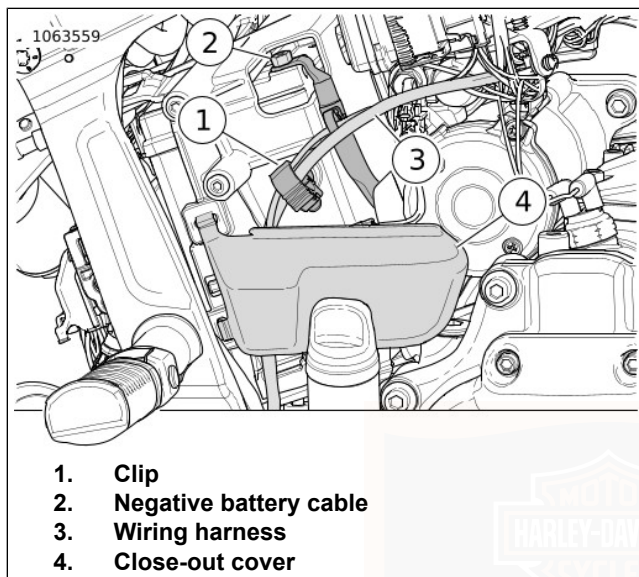
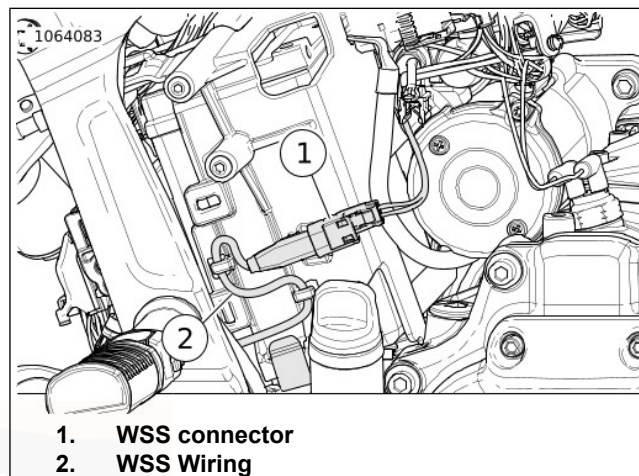
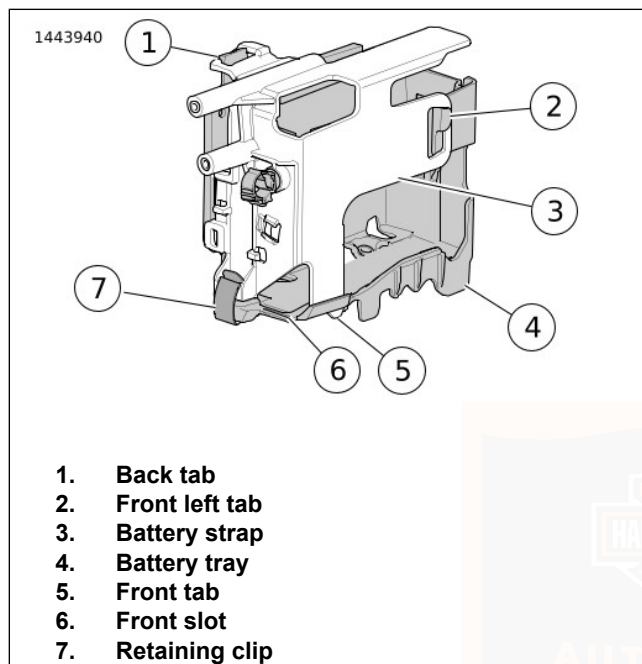

Figure 74. Negative Battery Cable and Close-Out Cover
Figure 75. WSS and Wiring
Figure 76. Battery Strap and Tray: (Removed for clarity)
3. See Figure 74. Disconnect negative battery cable (2).
4. Remove close-out cover (4)
5. Open clip (1) and position wiring harness (3) out of the way.
6. See Figure 75. Disconnect Wheel Speed Sensor (WSS) connector (1).
7. Remove WSS wiring (2) from routing tabs then remove wiring from battery strap.
8. See Figure 76. Remove battery strap.
- a. Unlock retaining clip (7).
- b. Disconnect back tab (1) from battery strap (3) to battery tray (4).
- c. Disconnect front left tab (2) from battery strap to battery tray.
1. See Figure 76. Install battery into battery tray (4).
4. Install battery strap (3).
- b. Connect front left tab (2) on battery strap to battery tray.
- c. Connect back tab (1) on battery strap to battery tray.
- d. Lock retaining clip (7).
5. See Figure 75. Install WSS wiring (2) to battery strap.
6. Connect WSS connector (1).
7. See Figure 74. Position wiring harnesses (3) and lock clip (1).
8. Connect negative battery cable (2) to negative battery terminal. Tighten. 8.1–10.8 N·m (72–96 **in-lbs**)
9. Install close-out cover (4).